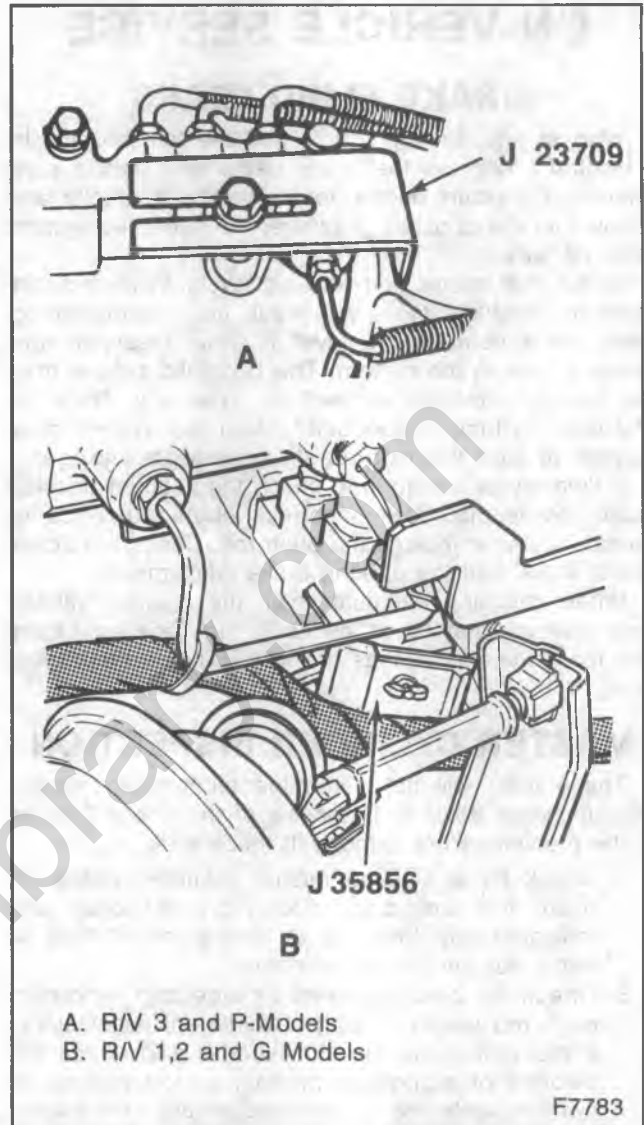

Figure 1—Using Combination Valve Depressor
2. Use J 35856 or J 23709 to depress and hold the valve stem on the combination valve during the bleeding operation (figure 1).